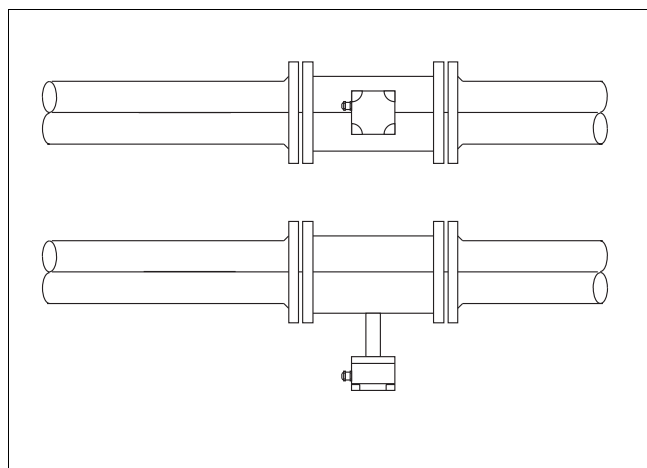

Fig. 14 High temperature installation
- For horizontal installation and fluid temperatures $> 150\text{ }^{\circ}\text{C}$ the arrangement as shown in Fig. 14 is recommended.